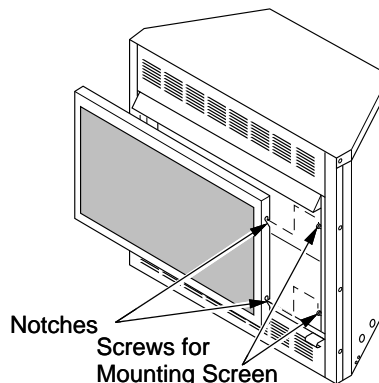

Figure 31 - Installing Fireplace Screen
6. Install fireplace screen by slipping notches of fireplace screen over screws on front of fireplace (see Figure 31).